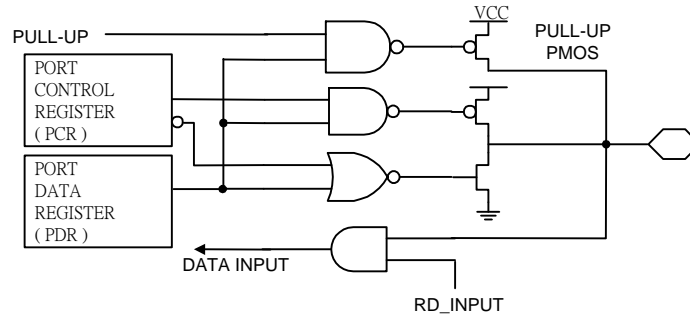

Figure 9-4 Port-B Configuration Function Block Diagram
(PB) when an I/O is used as an input. The PULL control bit of PMCR also controls the ON/OFF of all the pull-up MOS simultaneously. Please refer to the Figure 9-4.